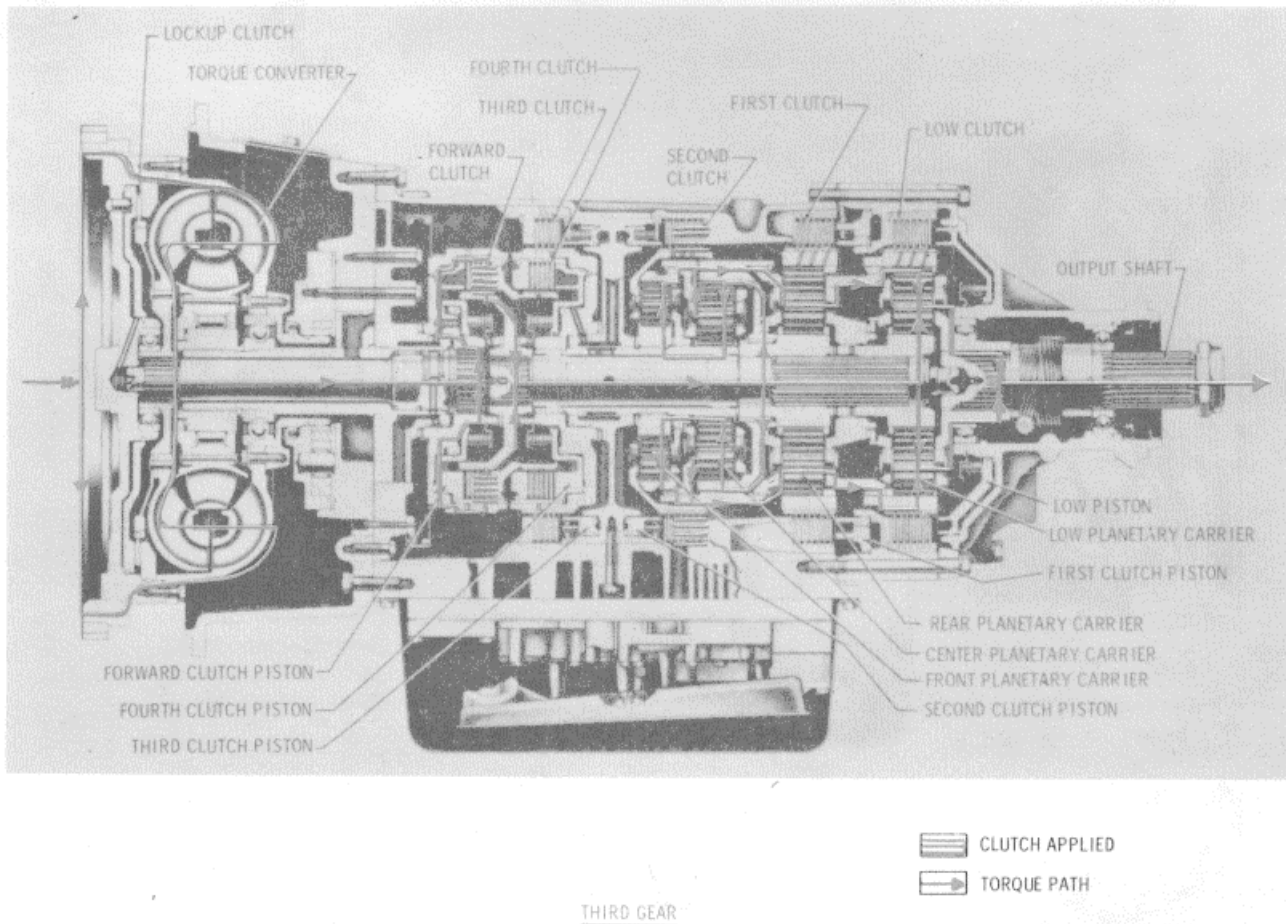

Fig. 2-11. Third-gear torque path
f. Third-Gear Operation(fig. 2-11). Engine torque is transmitted through the torque converter as described in a, above. The forward and the second clutches are applied. The second-clutch application anchors the carrier of the front planetary assembly against rotation. The forward-clutch application locks the turbine driven shaft (input shaft) and the main shaft together so they rotate as a unit. The rear sun gear is splined to both the rotating main shaft and the center ring gear and all three parts rotate at input speed. With the carrier of the front planetary carrier assembly anchored against rotation (by second-clutch application), the rotating center ring gear, rotates the center sun gear shaft via the carrier pinions. The center sun